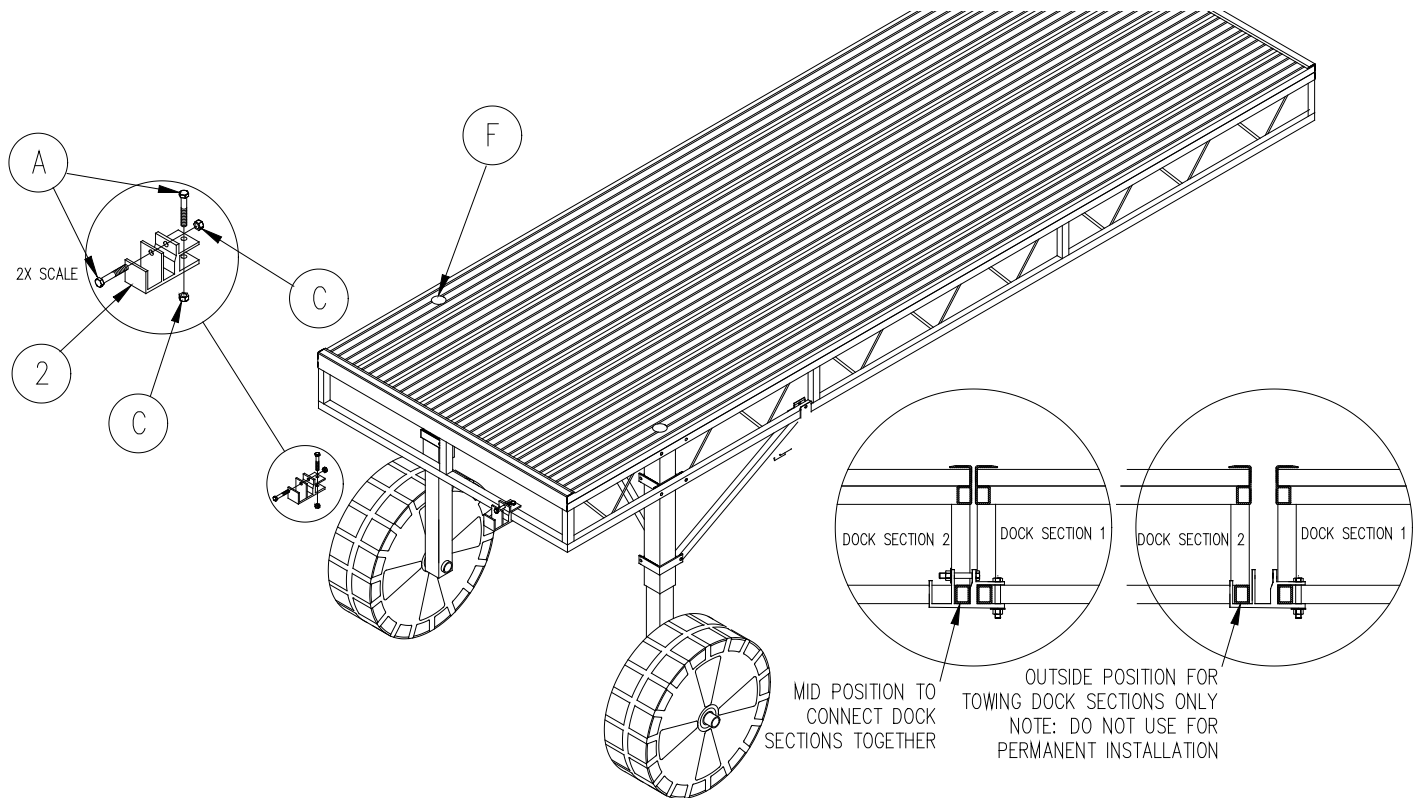

Figure 2-8
15. **Refer to figure 2-8.** If another section is to be connected, install T-Dock connect bracket (detail 2). Use bolts (detail A) and Hex nut (detail C) to the dock frame. The second dock section can be connected to this connector using the middle section. Install bolts (detail A) and Hex nut (detail C) to secure second dock section to the first dock section. PLEASE NOTE: The outside position of the T-Dock connect is to used only for towing dock sections in and out of the water and not to be used as permanent installation.
32. **Refer to figure 2-8.** If another section is to be connected, install T-Dock connect bracket (detail 2). Use bolts (detail A) and Hex nut (detail C) to the dock frame. The second dock section can be connected to this connector using the middle section. Install bolts (detail A) and Hex nut (detail C) to secure second dock section to the first dock section. PLEASE NOTE: The outside position of the T-Dock connect is to used only for towing dock sections in and out of the water and not to be used as permanent installation.